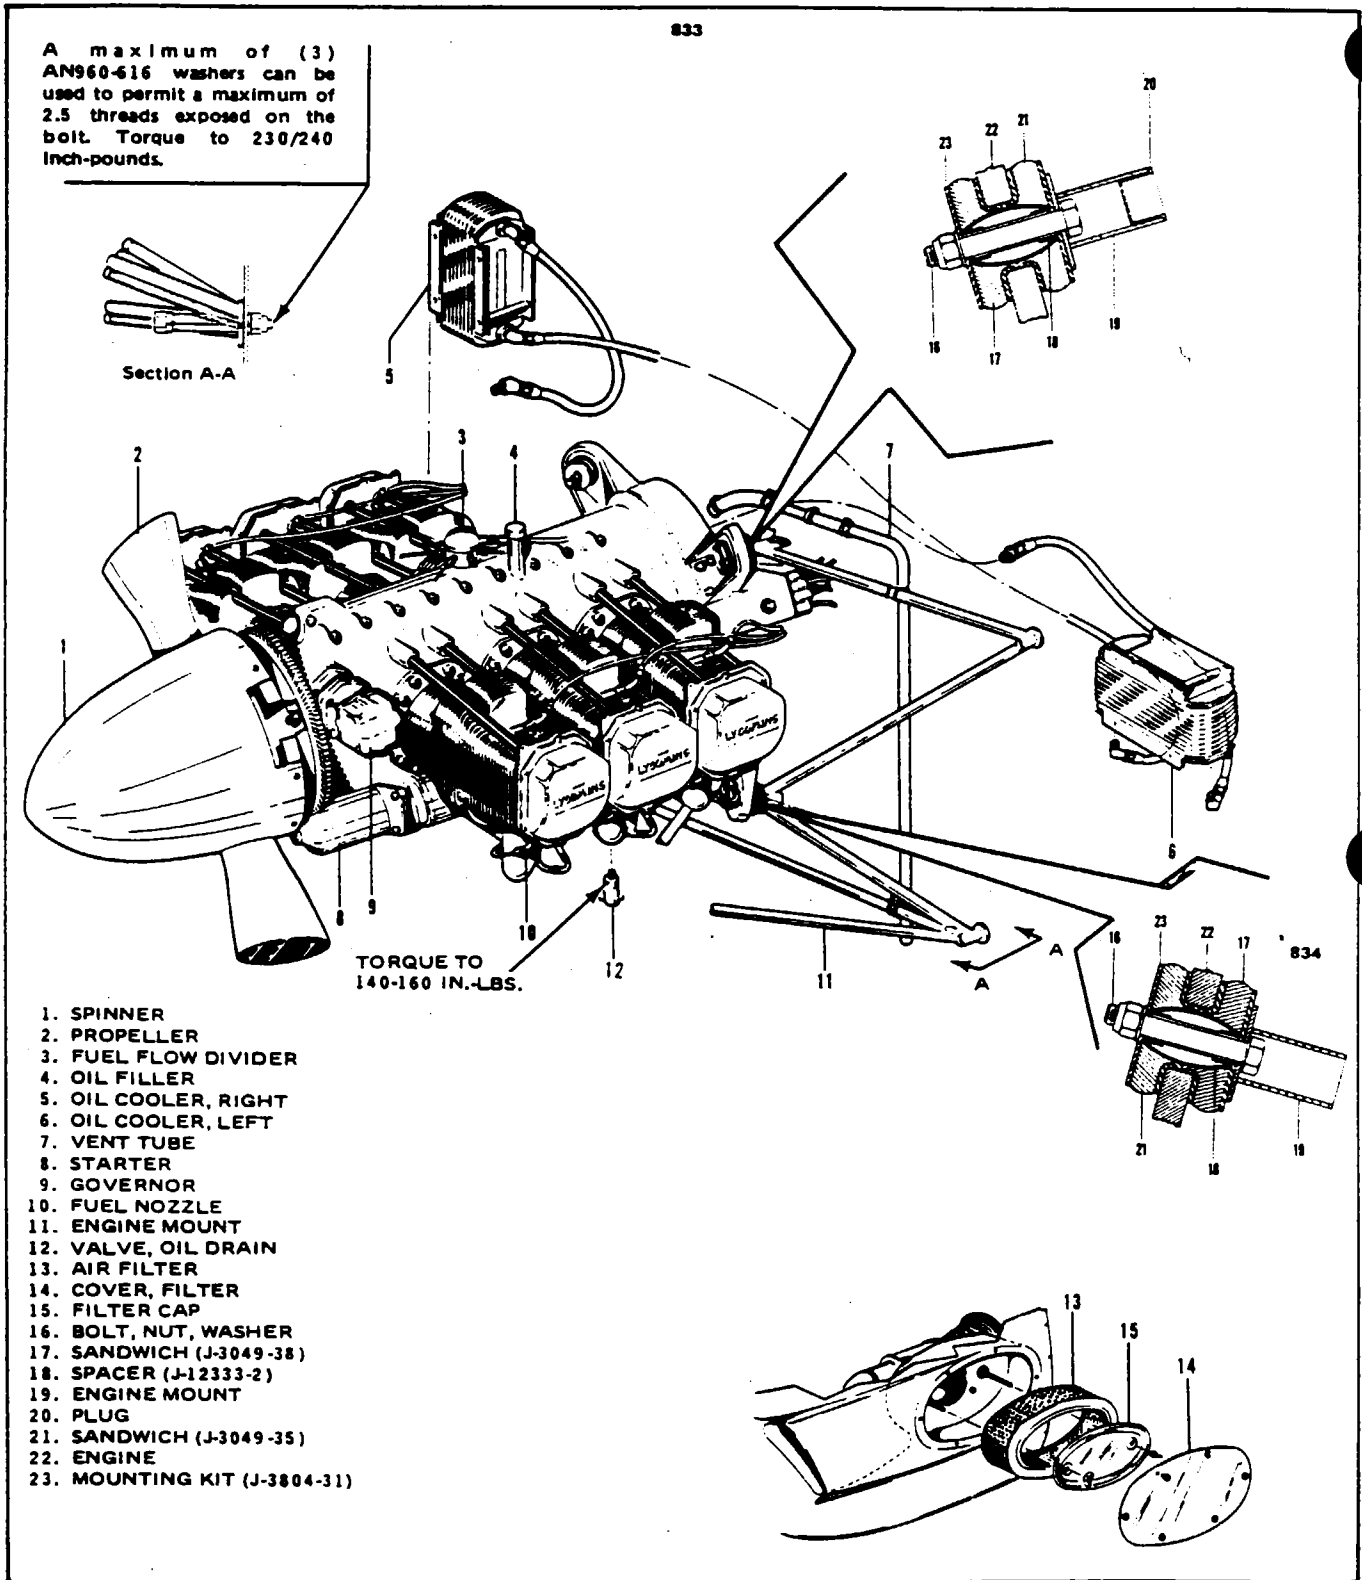

Figure 8-4. Engine Installation
8-14. INSTALLATION OF ENGINE. (Refer to Figure 8-4.)
- b. Insert an engine mount bolt, with washer against head, in the engine mount and slide half of the mount assembly on the bolt. (Refer to Figure 8-4 for proper shock mount assembly.) Repeat this procedure for the other three attachment points.
Shock mount Part No. J-3049-38 sandwich (17) must be positioned on the compression side of the engine lugs, with the upper mounts on the forward side, and the lower mounts on the aft side. The part number is stamped on the metal face of the mount. (Refer to Figure 8-4.)